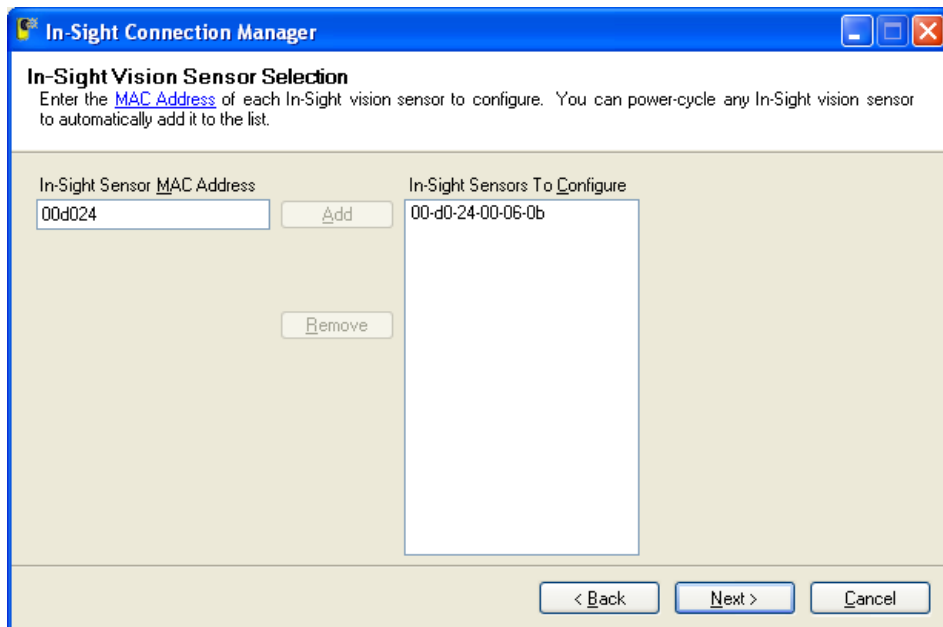

Figure 4-3: MAC Address
7. In the left-hand text box, enter the MAC Address for the wafer reader you would like to configure, then click Add (Figure 4-3). Repeat these two steps for any additional wafer readers you would like to configure. Alternately, you can simply cycle power on any wafer readers you would like to configure, and the In-Sight Connection Manager will automatically add the corresponding MAC address to the list after they reboot.